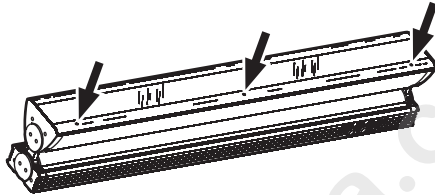

Figure 1: Front cover release screws
2. See Figure 1. Loosen the three front cover release screws in the hinged front cover release flap until they turn freely.